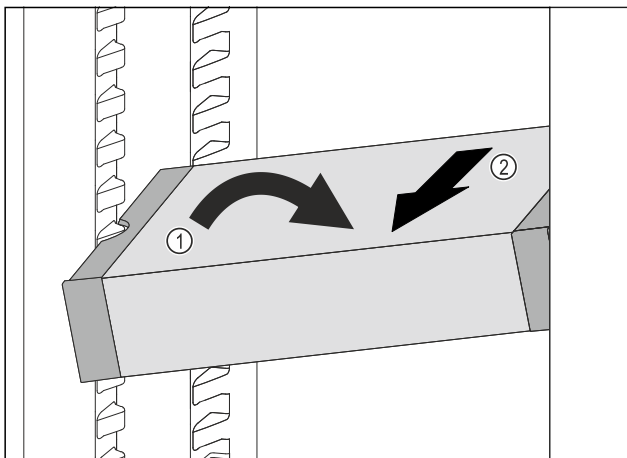

Fig. 153
- Set VarioSafe in refrigerator compartment at an angle. Fig. 153 (1)
- Take VarioSafe out to the front. Fig. 153 (2)